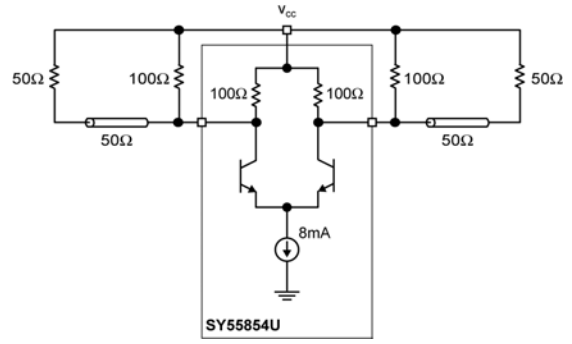

Figure 3b. Individually Terminated (50Ω Load CML Output)
8. Tested using environment of Figure 3b,  $50\Omega$  load CML output.